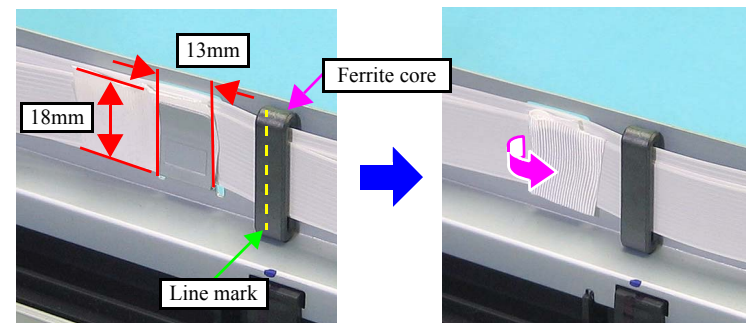

Figure 4-63. Standard of acetate tape attachment
- Align the ferrite core with the line mark shown in Figure 4-63, then secure it to the Front Frame with double-sided tape.